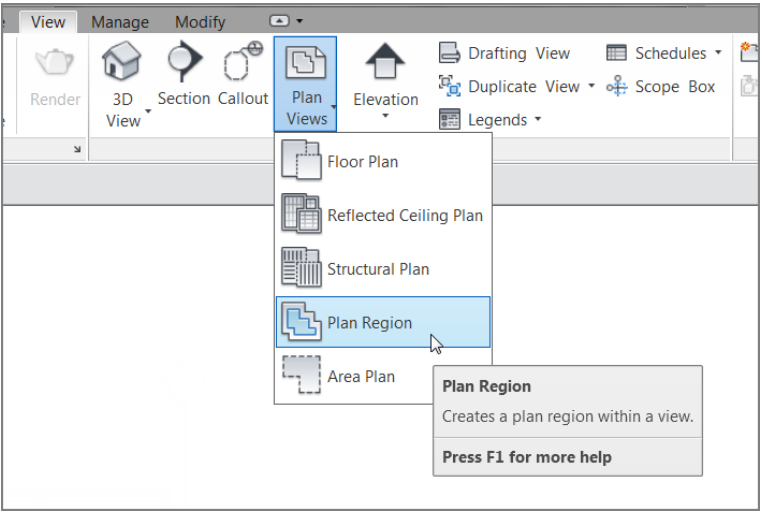

FIGURE 7.34: Using a plan region enables you to alter the view range in a specified area of a plan.
- 2. On the View tab, choose Plan Views > Plan Region, as shown in Figure 7.34.